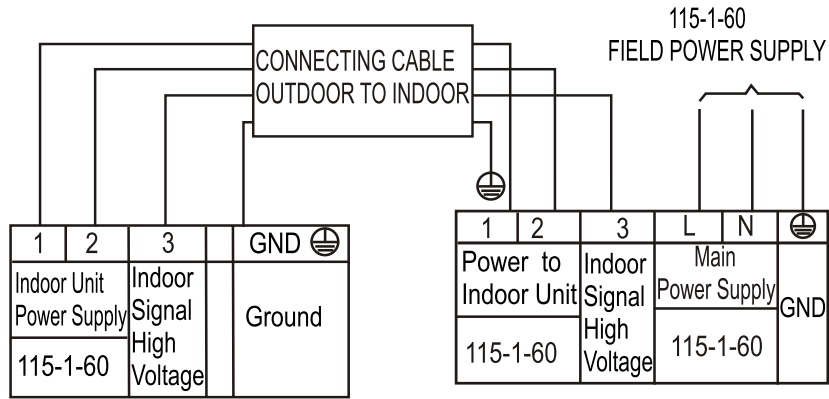

Fig. 7 — Connection Diagram 12K (115 V)
2. All connections between indoor and outdoor units must be as shown in Figures 7 - 9. The connections are sensitive to polarity and will result in a fault code.